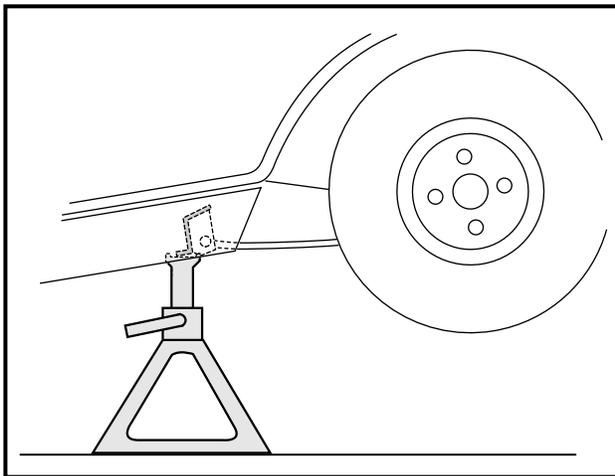

Figure 16-8 Support Vehicle on Jackstands
1. Place chocks at the front wheels and loosen the lug nuts on the rear wheels. Lift the rear of the vehicle with a chain hoist or with a floor jack placed under the transaxle. Position jackstands under the frame cross-member between the spring mount and the side stringer, just forward of each rear wheel. Lower the vehicle to let the jackstands support the vehicle (**Figure 16-8, Page 16-7**).